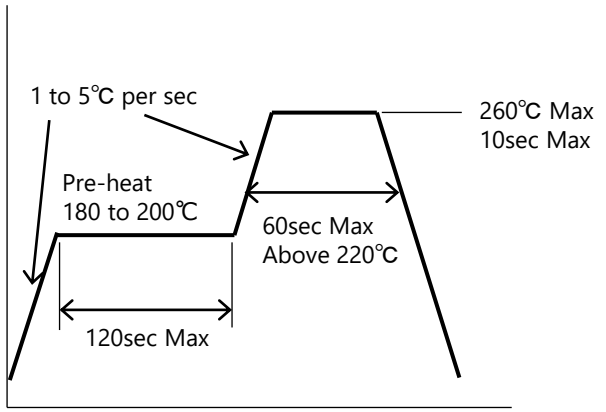

Figure 9. Recommended Reflow Soldering Condition (Lead-free Solder)
2. Using the recommended reflow soldering conditions (See Figure 9 to the left) as a reference, modify if necessary, the recommended reflow conditions specified by the manufacturer of the solder paste being used.